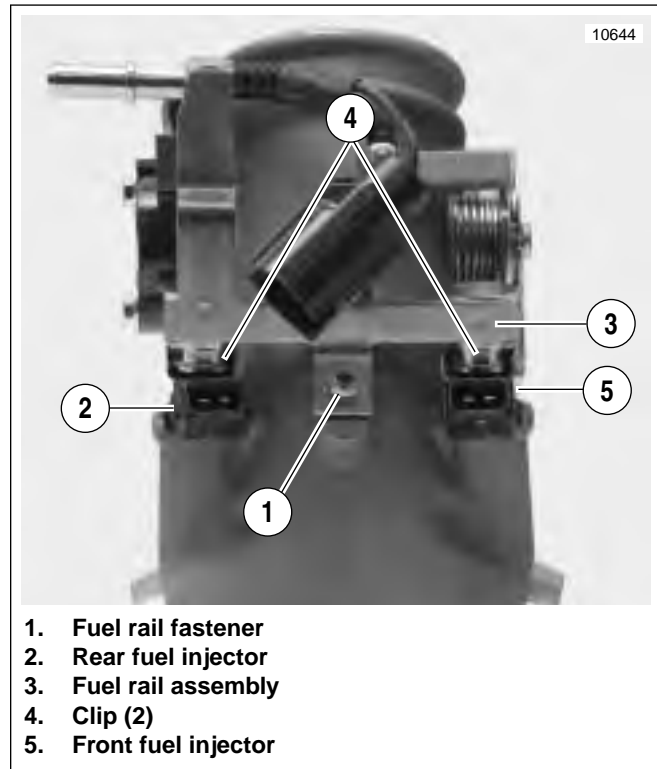

Figure 4-106. Fuel Injectors
- a. See Figure 4-106. Remove both injector clips (4).
6. See Figure 4-106. Install fuel injectors.
- b. Press the fuel rail assembly (3) onto the top of the injectors.
7. Snap the injector clips (4) over the flange on the fuel rail outlet and into the top groove in the injector.